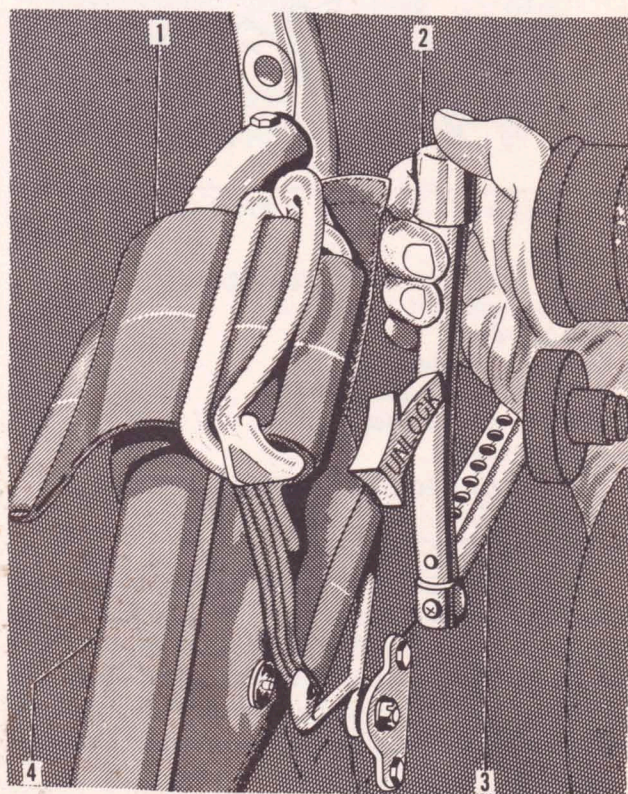

Figure 23—Pilot's Seat Adjustment
Parts list for figure 23.
(3) **PILOT'S SEAT ADJUSTMENT.**—The seat is held in position by locking pins. For vertical adjustment, release the locking pins by raising the lever on the right side of the seat (see figure 23) and either raising the seat by relieving it of weight, allowing the shock cord suspension to move it up, or lowering it by applying sufficient weight to overcome the force of the shock cord. When the desired vertical adjustment is obtained, lower the lever to lock the seat in place. Horizontal adjustments are not obtainable.